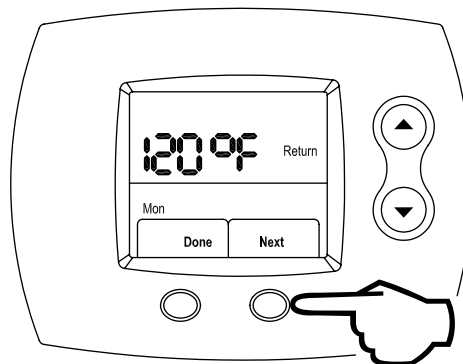

Figure 95
Step 21: Press the **RIGHT** (Next) button to lock in the Return period water temperature, as shown in Figure 95. Now, the Return time period is set for day being edited.